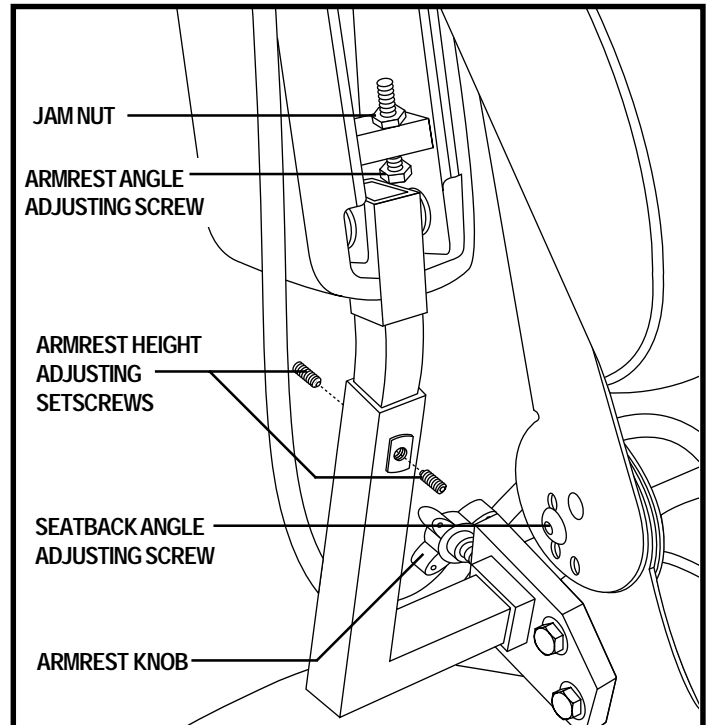

Figure 15. Seatback and Armrest Adjustments
1. Remove the seatback angle adjustment screws on both seat hinges. See figure 15.
1. Locate the two armrest knobs on each side of the armrest receiver bracket. See figure 15.
2. Raise or lower the armrest to the desired height. See figure 15.
2. Loosen the jam nut. See figure 15.
4. Turn the adjustment screw to raise the front of the armrest or to lower the front of the armrest. See figure 15.